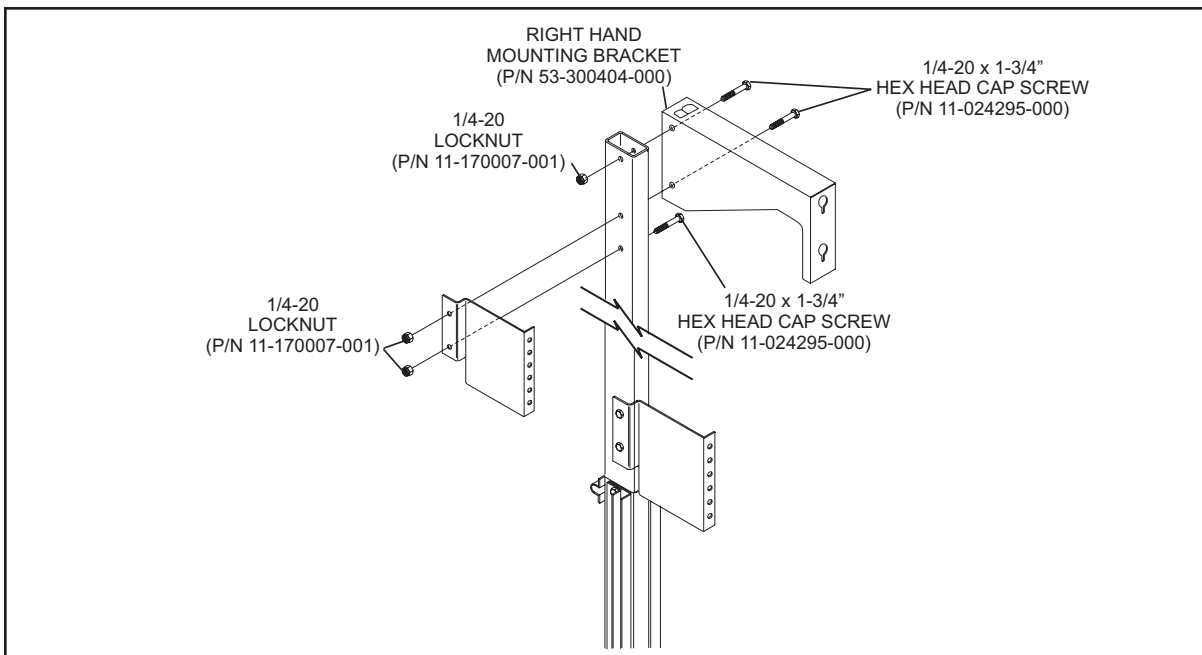

Figure 33
1. Install the last support assembly “B” projection screen mounting bracket and upper graphic standoff. Refer to *Figure 33*.